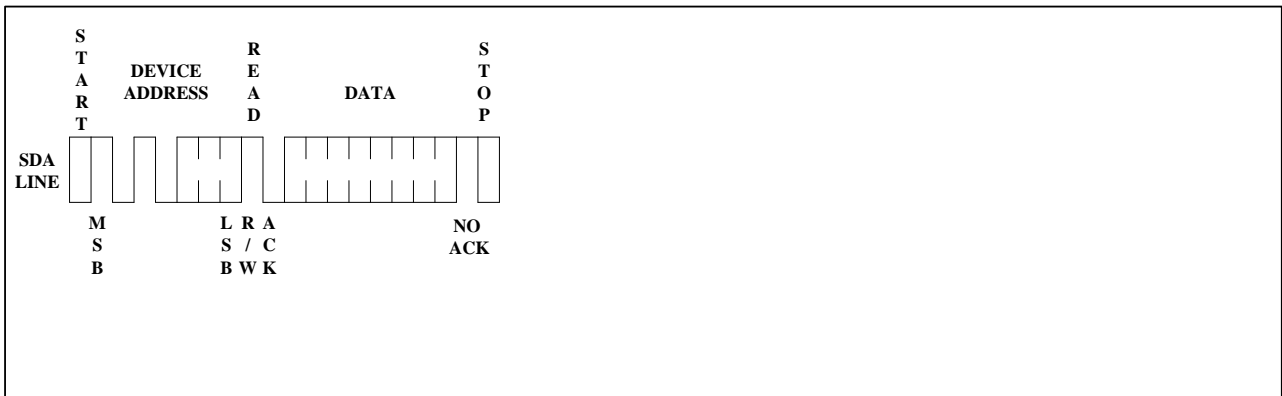

Figure 8. Current Address Read
**CURRENT ADDRESS READ:** The internal data word address counter maintains the last address accessed during the last read or write operation, incremented by one. This address stays valid between operations as long as the chip power is maintained. The address "roll over" during read is from the last byte of the last memory page to the first byte of the first page. The address "roll over" during write is from the last byte of the current page to the first byte of the same page. Once the device address with the read/write select bit set to "1" is clocked in and acknowledged by the EEPROM, the current address data word is serially clocked out. The microcontroller does not respond with an input "0" but does generate a following stop condition (see **Figure 8**).